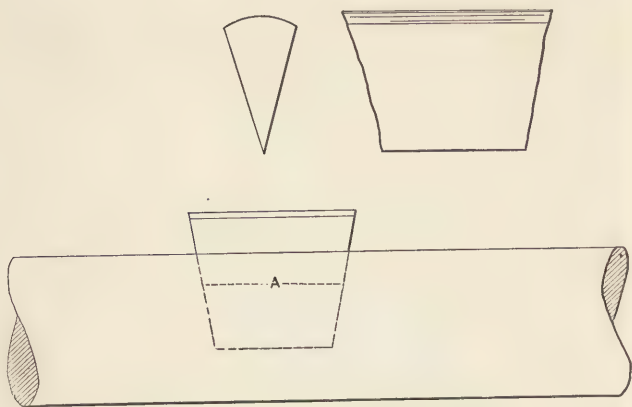

Fig. 58. The use of a "Dutchman."
**The Use of "Dutchmen."**—The small piece shown in Fig. 58 is commonly called a "dutchman" and is ordinarily used in covering up a bad spot, or to help out a poor weld. It is, however, used to good advantage in lengthening a bar, as it keeps it up to size and at the same time gives the desired extra length and saves cutting and welding. A dutchman is usually made by thinning down one side of a round bar, and should be wider at the top than at the bottom. If you want to lengthen a large bar heat a spot on the bar and drive in the hot chisel; then drive the cold dutchman in the hot bar, as shown at *A*; then take a welding heat and you will be surprised at what a nice job can be done in a short time. The dutchman should not be driven in more than one quarter the depth of the bar. If the bar needs drawing very much you can use a dutchman on each side.